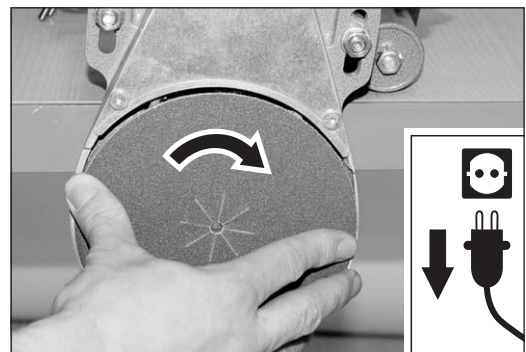
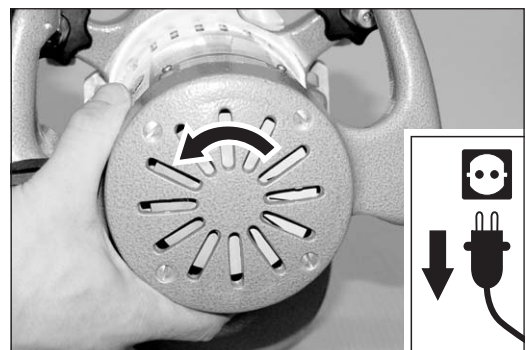

Fig. 27 While turning the sanding plate, ...
Fig. 28 ... the fan blade of the motor must rotate.
- 9 Turn the sanding plate by hand (fig. 27). Look at the same time through the slots in the handle. The fan blade of the motor must rotate (fig. 28). Otherwise the points 5 to 9 must be repeated!